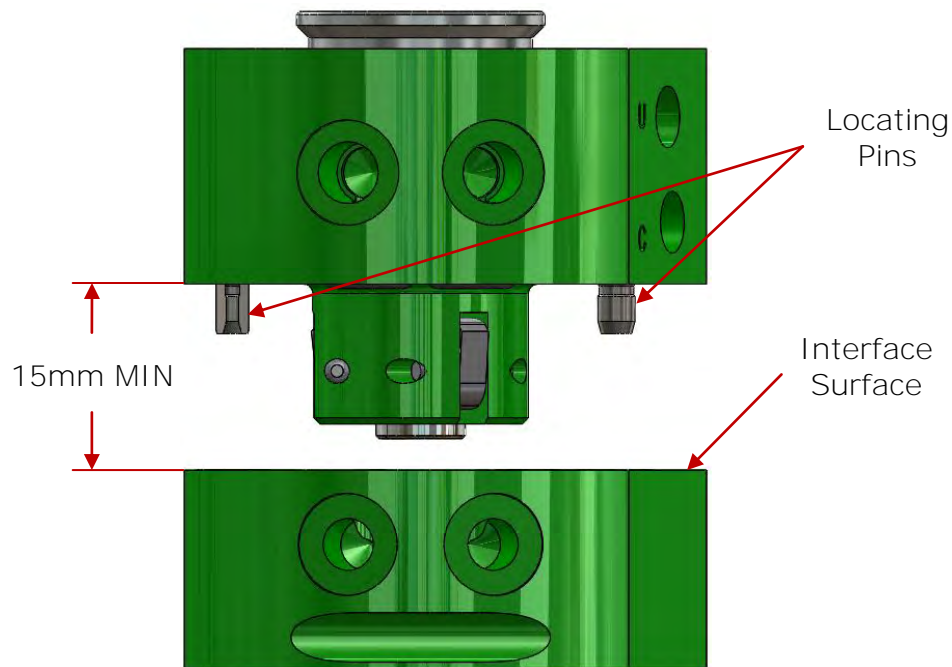

Figure 6.2-1. E31.5 Tool Changer – Docking Orientation
1. Orient the Robot Adaptor and Tool Adaptor so that the centerline axes are aligned and the interface surfaces are parallel. Maintain approximately 15mm minimum separation between the Robot Adaptor and Tool Adaptor interface surfaces (Figure 6.2-1).